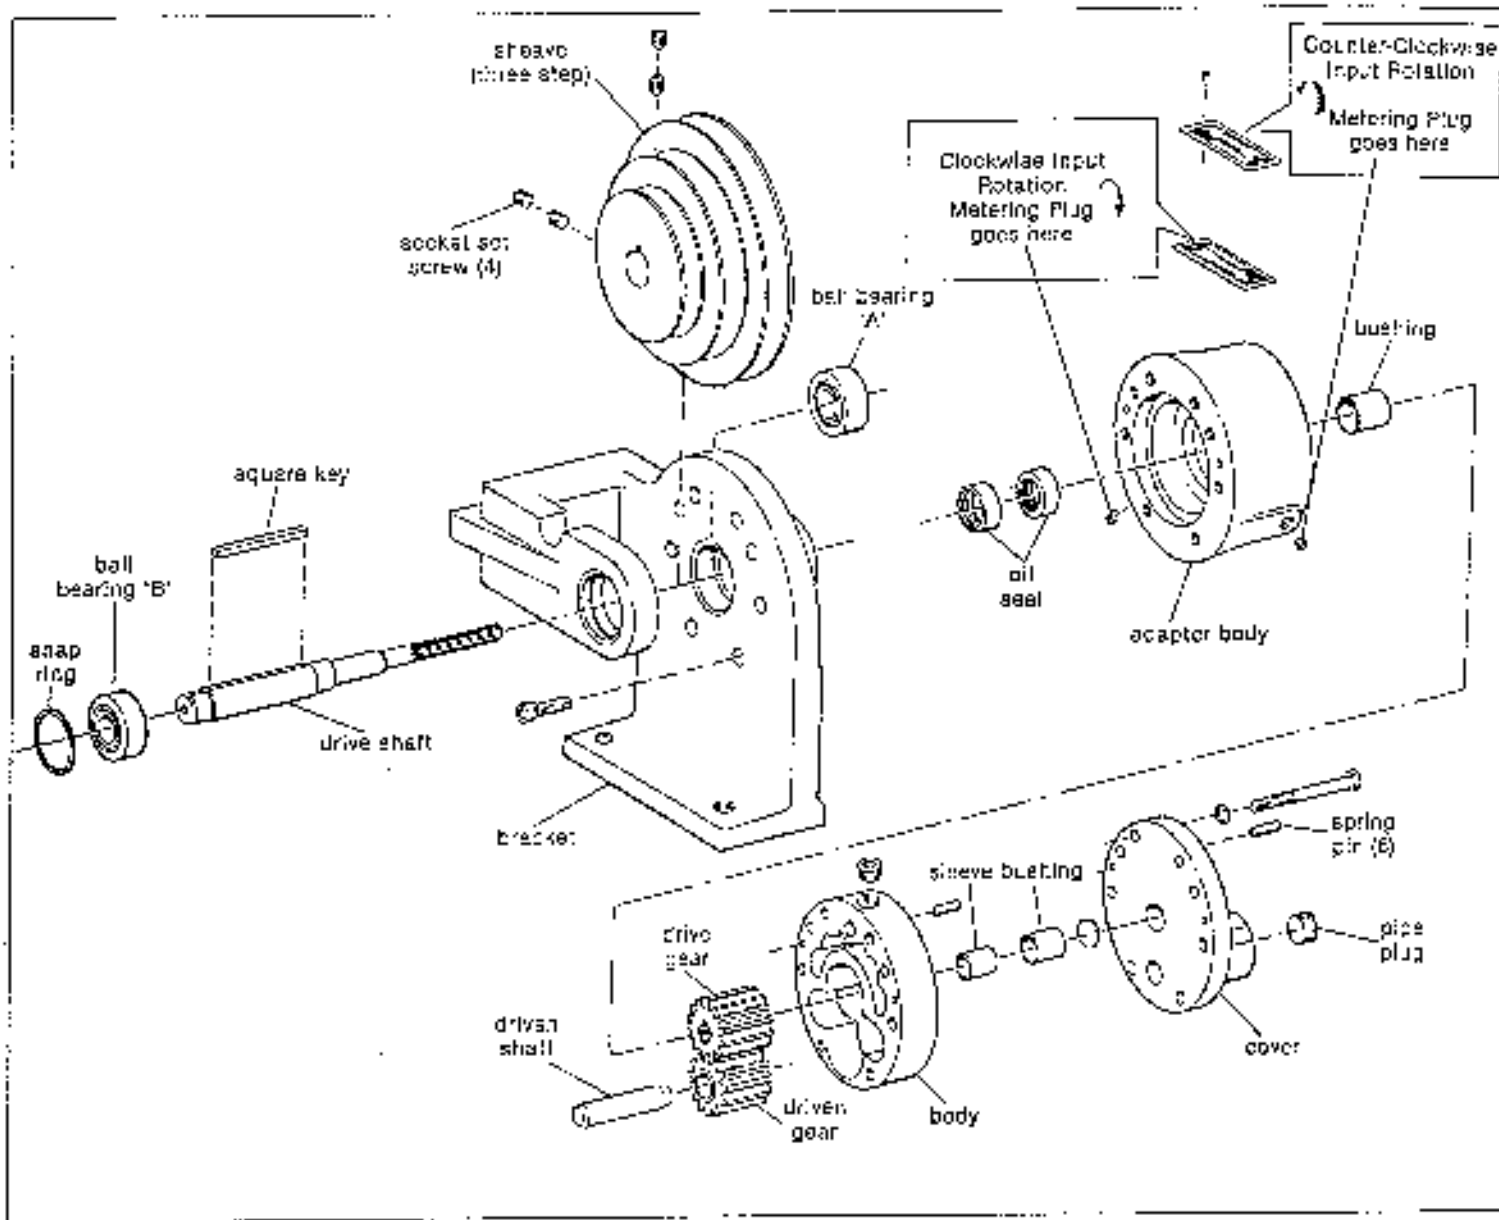

Fig. 19. Oil Pump; Belt Driven Single Style Shown
2. Install ball bearing 'A' (see fig. 19).
4. Apply very thin \*coat of Permatex 'Super 300' or equivalent to mounting faces and following punch marks place adapter body with bushing installed on bracket. Secure with socket head capscrews (2).
5. Hold sheave and drive belt in position in bracket and with keyway aligned slide drive shaft and key into place, splined end first. Install socket set screws (4) in sheave.
6. Tap ball bearing 'B' (see fig. 19) into bracket and secure with snap ring.
9. Apply thin \*coat of sealant and install cover following punch marks. Loose insert hex head capscrews. Install spring pins (6) flush with cover. Torque capscrews (3) to 16 lbs.-ft.